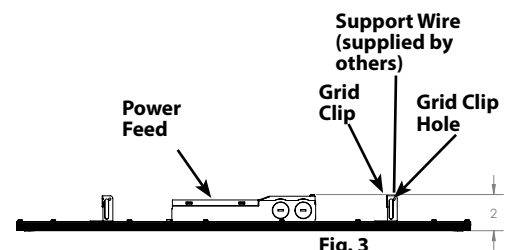

Fig. 3
3. Support wires are required by Installation Codes. Support the **Fixture** to the building structure by **Support Wires (supplied by others)** through the **Grid Clip Hole** as shown in Fig. 3.